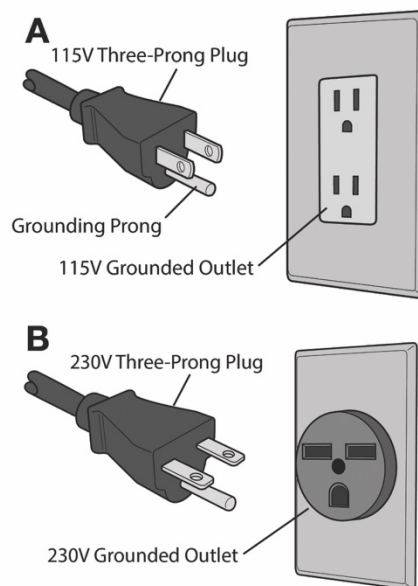

Figure 13
This table saw is rated at 115/230V power and is pre-wired for 115 volt. The table saw comes with a plug designed for use on a circuit with a *grounded outlet* that looks like the one pictured in A, Figure 13.
**WARNING** You must connect the electrical plug to a properly grounded, three-wire electrical outlet as shown in Figure 13. If you do not have a properly grounded, three-wire electrical outlet, you must contact a qualified electrician to install one. Installation must comply with all local codes and ordinances. Do not use this machine until a properly grounded, three-wire electrical outlet is installed and ready for use.
This tool is intended for use on a circuit that has an outlet that looks like the one illustrated in **A**, Figure 13. Make sure the tool is connected to an outlet having the same configuration as the plug.
This tool is intended for use on a circuit that has an outlet that looks like the one illustrated in **B**, Figure 13. The tool has a grounding plug that looks like the plug illustrated in **B**. Make sure the tool is connected to an outlet having the same configuration as the plug. No adapter is available or should be used with this tool. If the tool must be reconnected for use on a different type of electric circuit, the reconnection should be made by